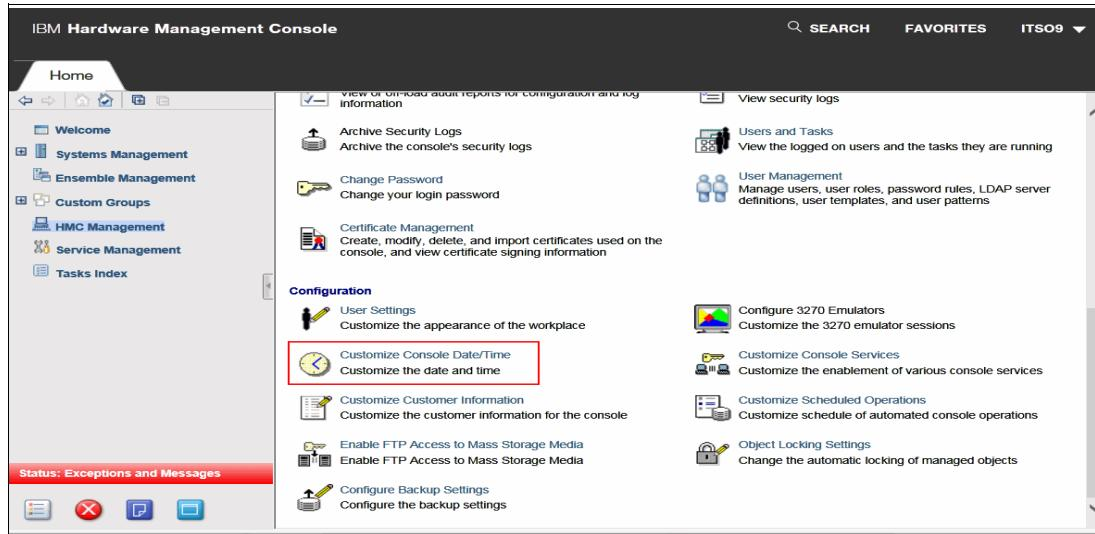

Figure 8-3 Customize Console Date Time selection
1. Open **Customize Console Date and Time** on the HMC. This task is available in the HMC Management section (Figure 8-3).